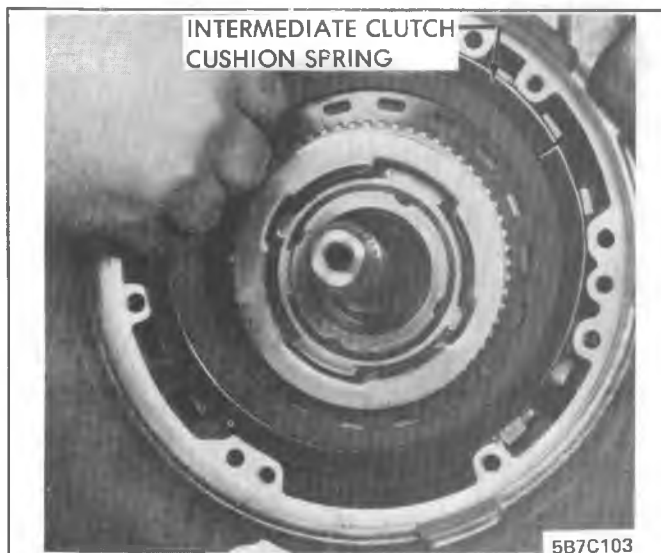

Figure 350C-132 Intermediate Clutch Cushion Spring
5. Checking direct clutch to oil pump clearance, attach slide hammer bolt to threaded hole in oil pump. See Figure 350C-
136. With flat of hand on end of input shaft move shaft rearward. Install Dial Indicator Set J-8001 on rod and "O" dial indicator on end of input shaft. Push on end of output shaft to move shaft forward, the reading obtained should be between .010 and .044. If the reading is incorrect remove pump assembly and install zero, one, or two .017 shims to obtain correct reading. See Figure 350C-133.